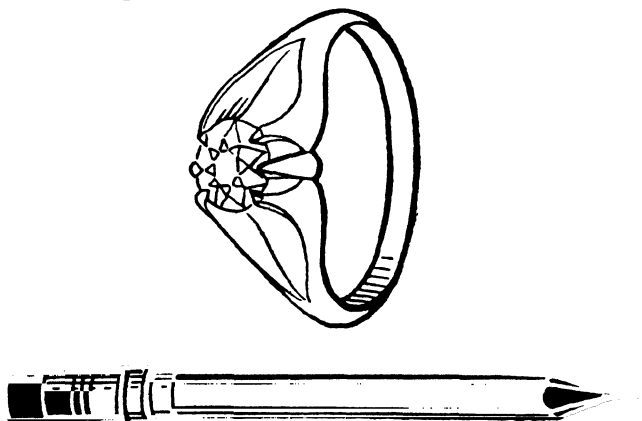

FIG. 54. THE LEAD IN THE PENCIL AND THE DIAMOND IN THE RING ARE BOTH CRYSTALLIZED CARBON (C)
Graphite is, next to the *diamond*, the purest kind of carbon (C). Graphite is so soft that it is used for lubricating machinery while diamond is the hardest substance known, yet both are crystallized forms of carbon. Two chief uses of these forms of carbon are shown in Fig. 54.